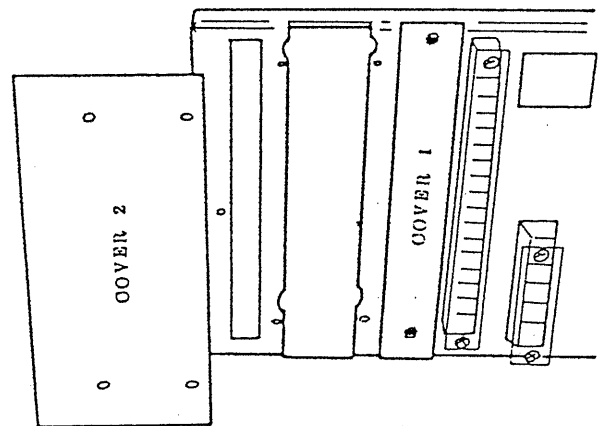

FIG. 7
- 4) Disconnect the power cord from the receptacle of main unit of PAE. Remove rear cover 2. (See Figure 7)